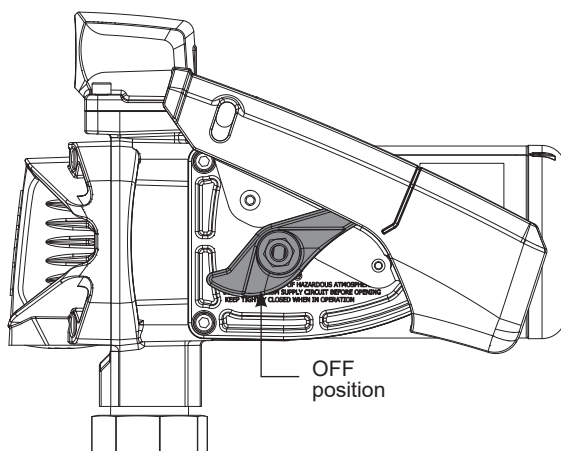

Figure 9
3. Place the nozzle into the nozzle holder on the end of the pump motor housing. Note that the nozzle cannot be placed in the holder unless the pump switch is OFF (see Figure 9).
2. To reset, turn switch lever OFF and then back ON (see Figures 9 and 10).